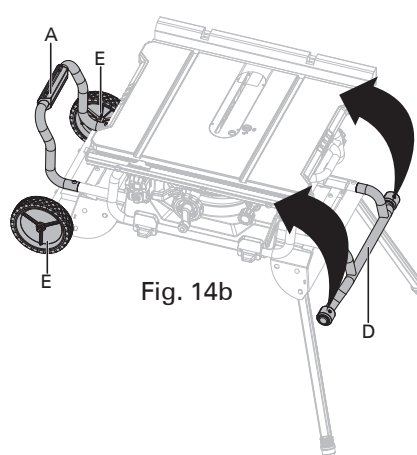
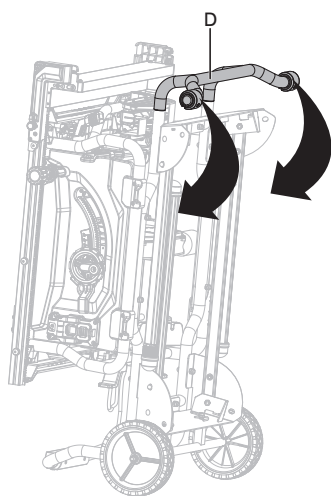
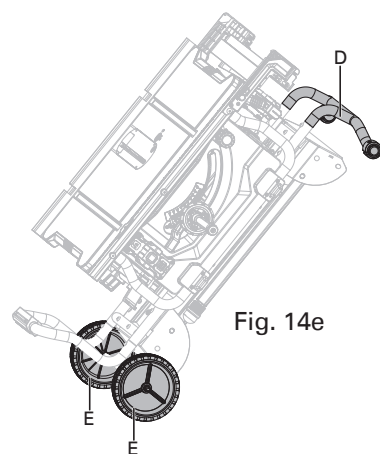

Fig. 14b
Fig. 14d
Fig. 14e
- Grasp the stand support assembly (A) and lift it up until two stand legs (B) (located on side of the wheel) leaving off the ground, then fold in two stand legs (B). To do this, push the lock pins (C) until they unlock the stand legs (B) from the holes, then swing the stand legs (B) upward until the stand legs are locked with the locking pins (C) engage the holes.
- Grasp the handle I (D) and tilt saw back onto wheels until the stand is balanced on the wheels (E) and stand support assembly (A). (Fig. 14b-14c)
- Fold in other two stand legs (F). To do this, push the locking pins (G) until they unlock the stand legs (F) from holes, then swing the stand legs downward until the stand legs are locked with the locking pins (G) engage the holes.
- Grasp the handle I (D) firmly and tilt saw to you, push the saw to the desired location (Fig. 14e) then either open the stand or store the saw (Fig. 14d & 14f) in a dry environment.